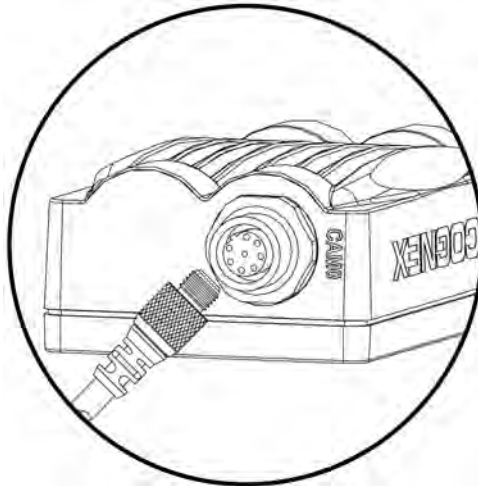

Figure 3-2: CAM0 Connection
3. Attach the male M12 camera cable connector to the In-Sight sensor's CAM0 connector (Figure 3-2).